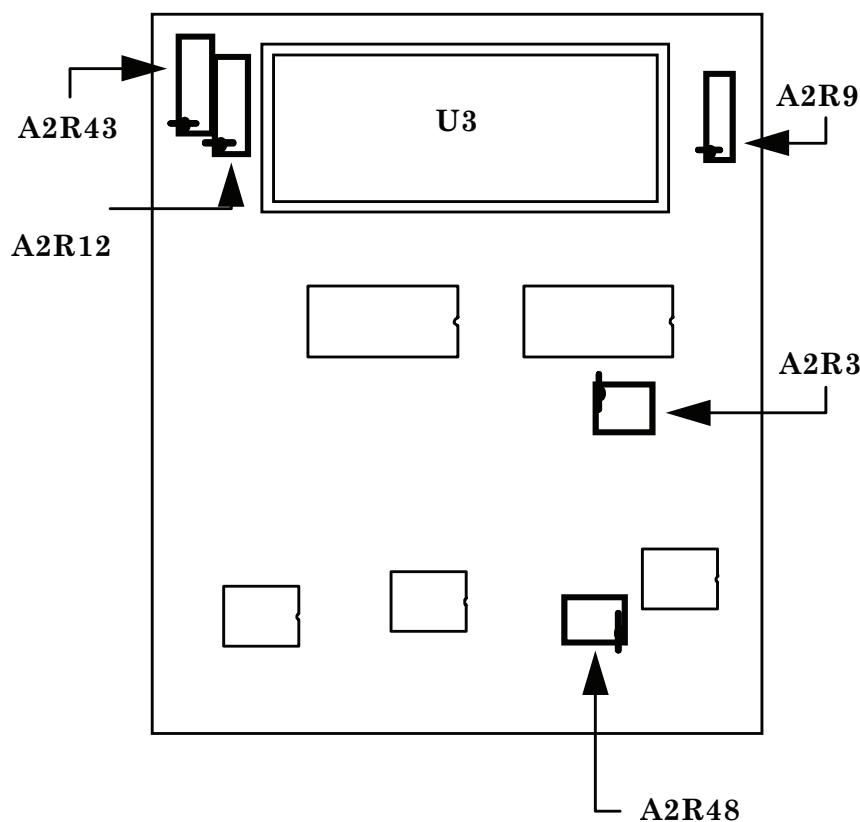

Figure 1. Measurement and display printed circuit board.
c. Pull **PULL ON** pushbutton to (on). Ensure TI display has clear crisp resolution, if not adjust A2R12 (fig. 1) for best clarity and resolution.
All adjustments are made on measurement and display printed circuit board (fig. 1).
(1) Connect multimeter **HI** to U3 pin 34 and **LO** to pin 21, adjust A2R9 (fig. 1) for multimeter indication of 1.000 V dc and then disconnect multimeter (R).
(2) Adjust A2R43 (fig. 1) for a TI indication equal to recorded value in **a** (7) above ± 0.01 dBm (R).
(3) Adjust A2R3 (fig. 1) for a TI indication equal to recorded value in **a** (12) above ± 0.01 dBm (R).
(4) Repeat **a** (5) through (14) above as necessary until within tolerance conditions are met.
(1) Perform **a** (1) through (4) above.
(2) Adjust A2R48 (fig. 1) for TI indication between -20.01 and -19.99 (R).